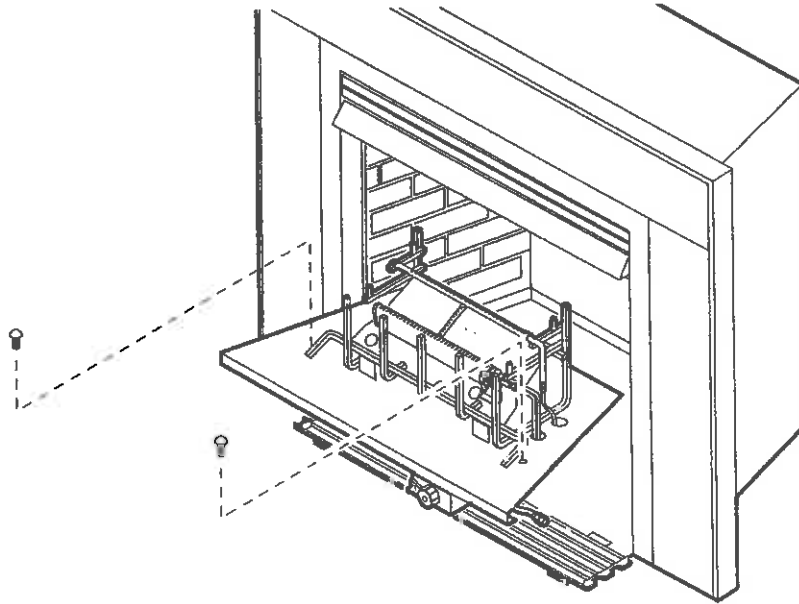

FIGURE 10.
- To remove the grate and base assembly, take out two screws as shown in FIGURE 10.